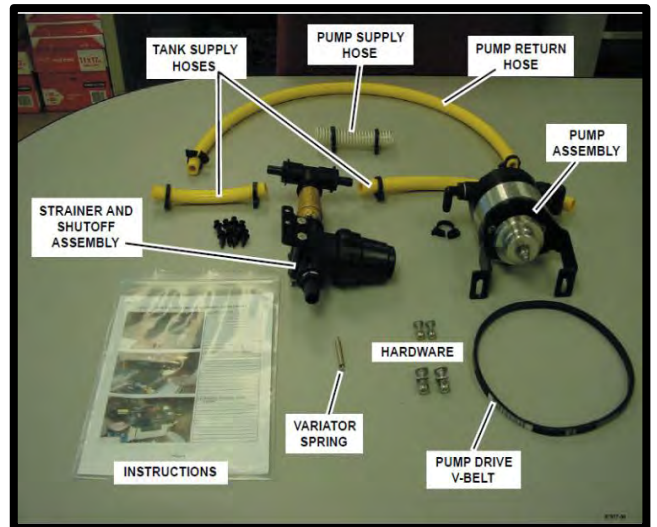

FIGURE 1: Pump upgrade kit
- Aquatec pump release (**FIGURE 1**)